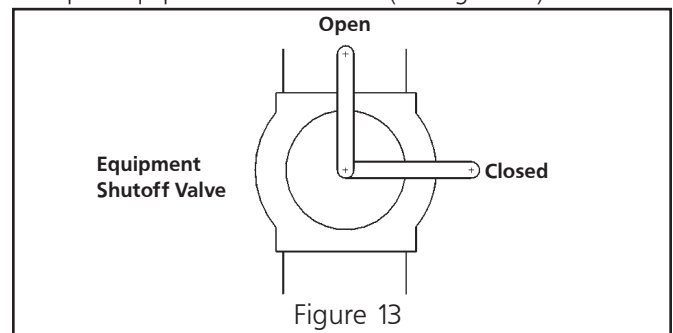

Figure 13
during any pressure testing of the gas supply piping system at test pressures equal to or less than ½ psi (3.5 kPa). (see figure 13).
3. Open equipment shutoff valve (see figure 13).